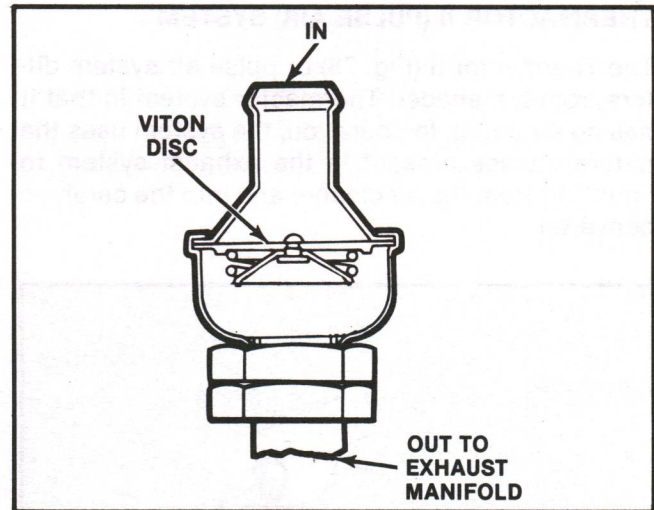

Figure 77. Typical Thermactor Air Check Valve
- **Air Thermactor Check Valves (Fig. 77)**—Used to prevent exhaust from flowing back into the Thermactor air system.